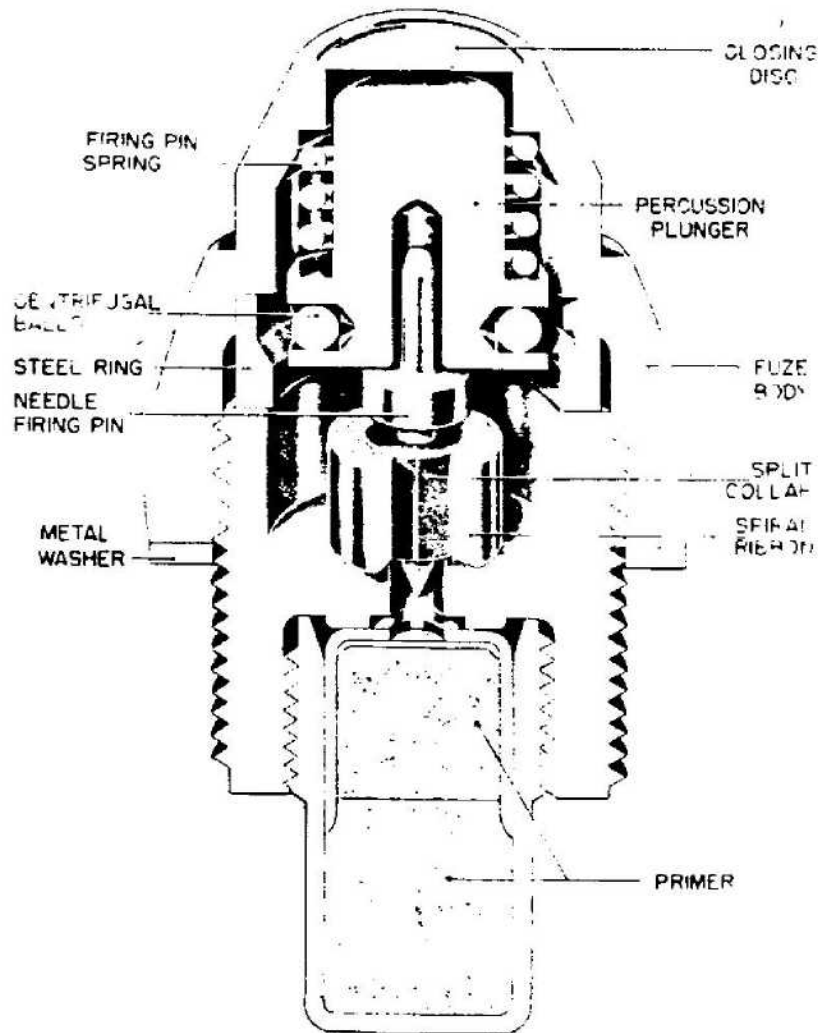

Figure 554—Z. Z. 1505
**EMPLOYMENT:** German self-destroying nose fuze used in the 2-cm Mauser (H. E. ammunition). (See fig. 554.)